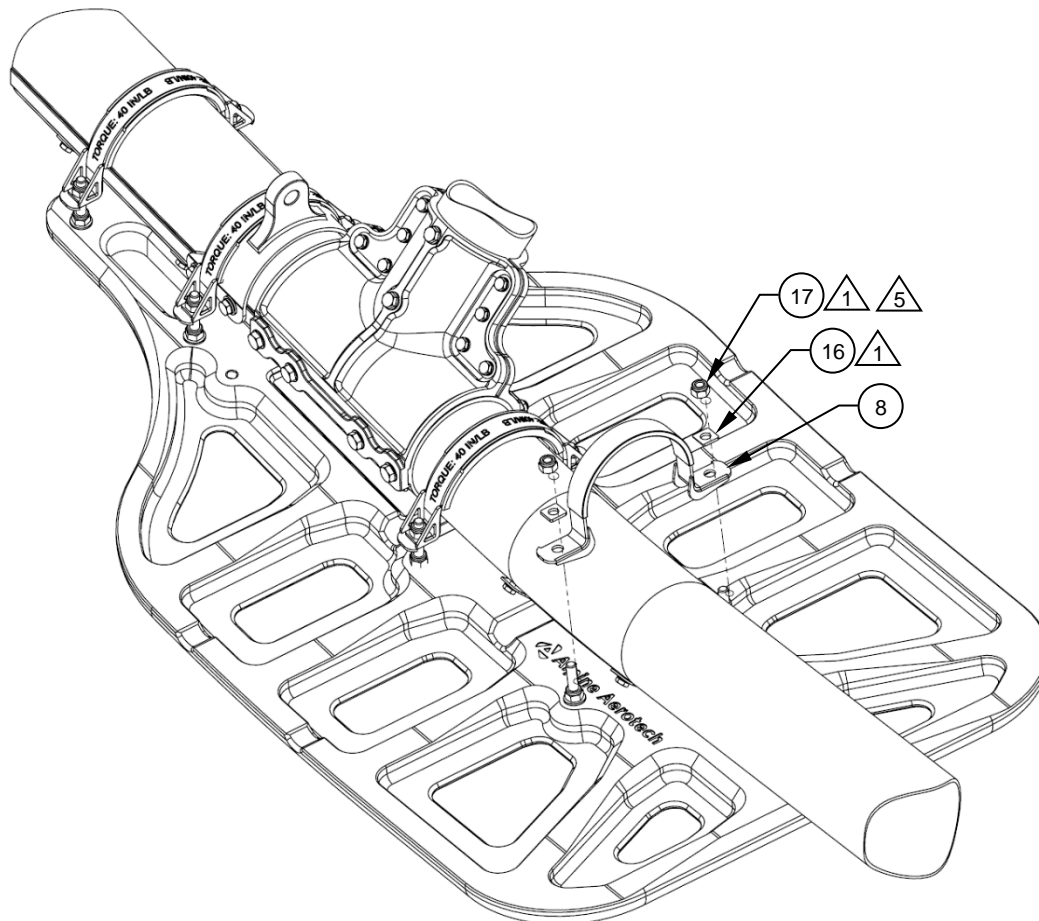

Figure 11
4. Install the AFT Strap, Assy (Item 8). The Strap, Assy may need to be bent slightly to fit it over the tube. Reference Figure 11.